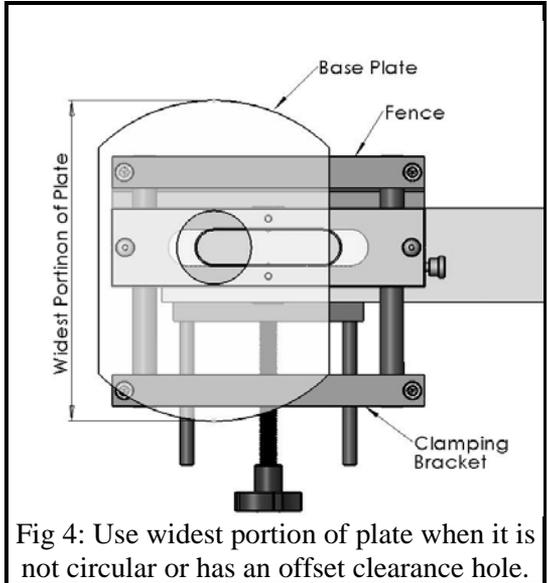

Fig 4: Use widest portion of plate when it is not circular or has an offset clearance hole.
**portion of the plate** is at least 6" and maintains contact with the jigs **fence** and **clamping bracket** at all times as shown in Fig. 4.